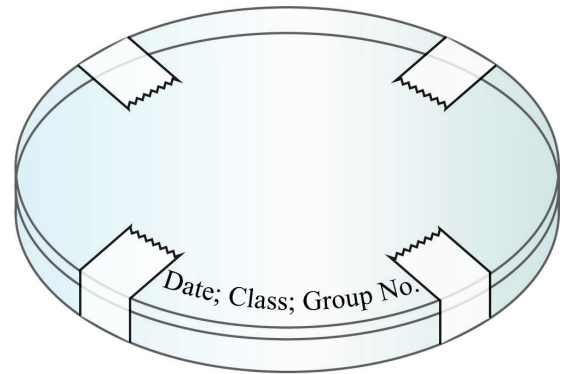

Fig. 27
10. Stick short strips of adhesive tape at opposite edges of the agar plates to hold the lid and base together (Fig. 27). Invert the agar plate and incubate it at room temperature or in an incubator set at 25–30°C for 1–2 days* until observable colonies are found.